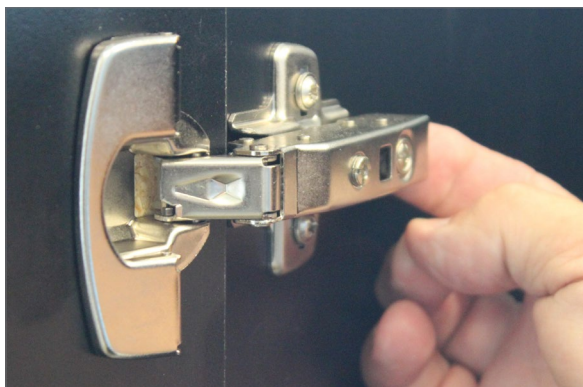

Fig. 9B Unclip hinge
- 3 To unclip hinge apply light pressure to the clip at the back of the hinge and pull forward (Fig. 9B)